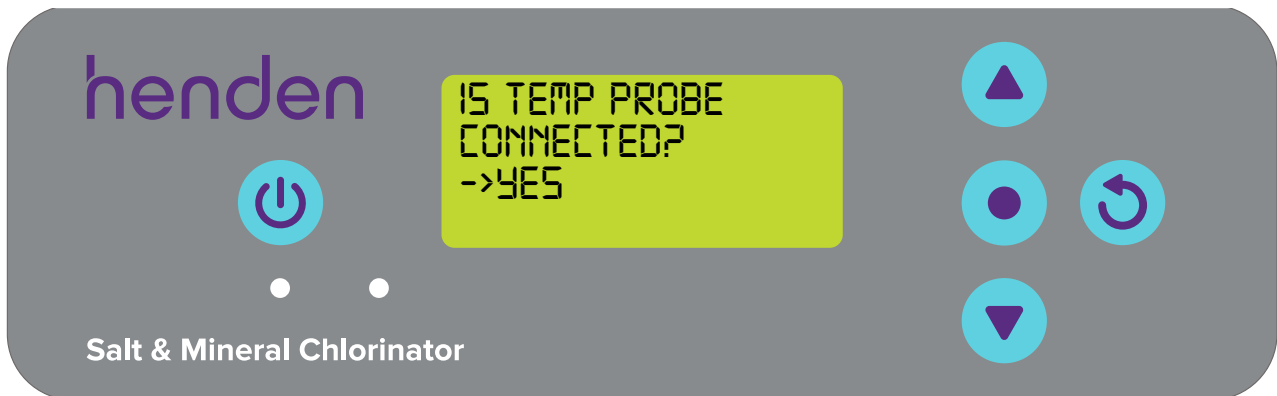

Figure 6.26
- The next screen asks if the temperature probe is currently connected and to be used (refer Figure 6.26). The temperature probe is the same probe as the salt probe, but it does plug into the HWQH controller by a separate socket